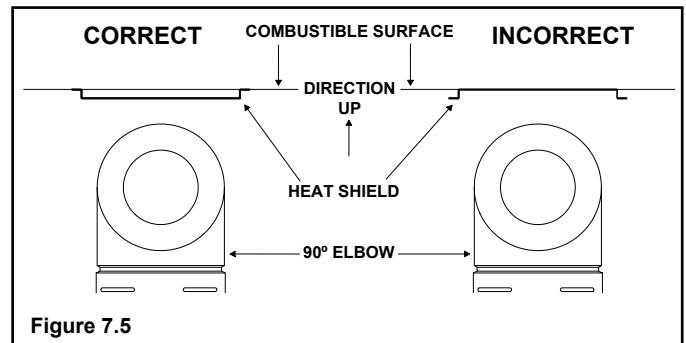

Figure 7.5
2. Fasten the shield in place using the four pilot holes provided in the part. The shield should be oriented such that the 13 1/8 inch dimension (longest dimension) is running in the same direction the elbow is pointing. The shield should be centered directly above the elbow, and positioned so that it creates a 1/2 inch airspace between the shield and the combustible surface. See Figure 7.5.